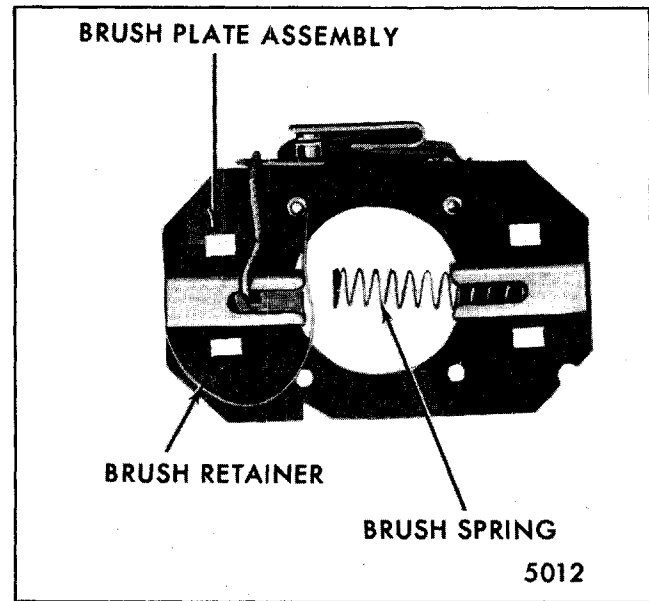

Fig. 2-65-Brush Plate Assembly - Removed
5. Position the partially assembled brush plate (Fig. 2-65) over the armature shaft far enough to allow reassembly of the remaining brush in its brush holder; then position the brush plate assembly on the mounting tabs in the position shown in Figure 2-51.